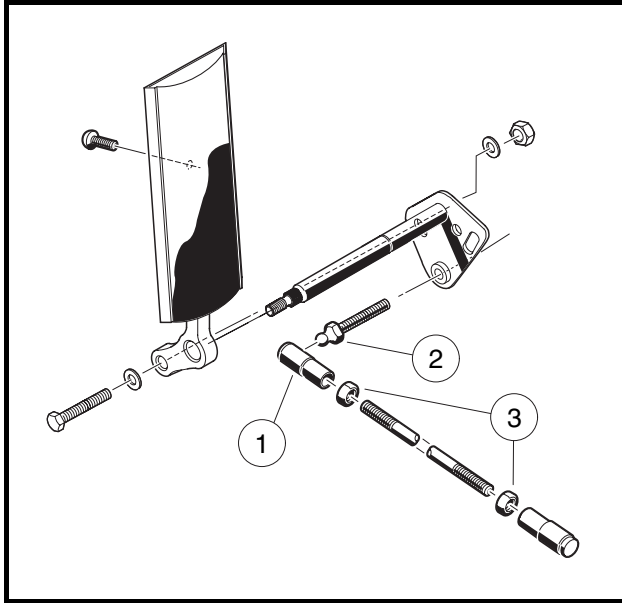
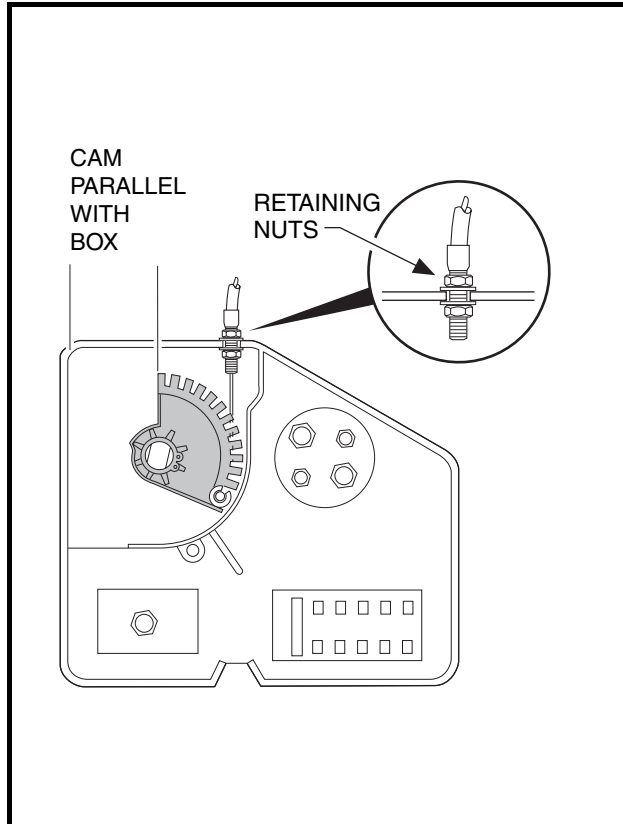
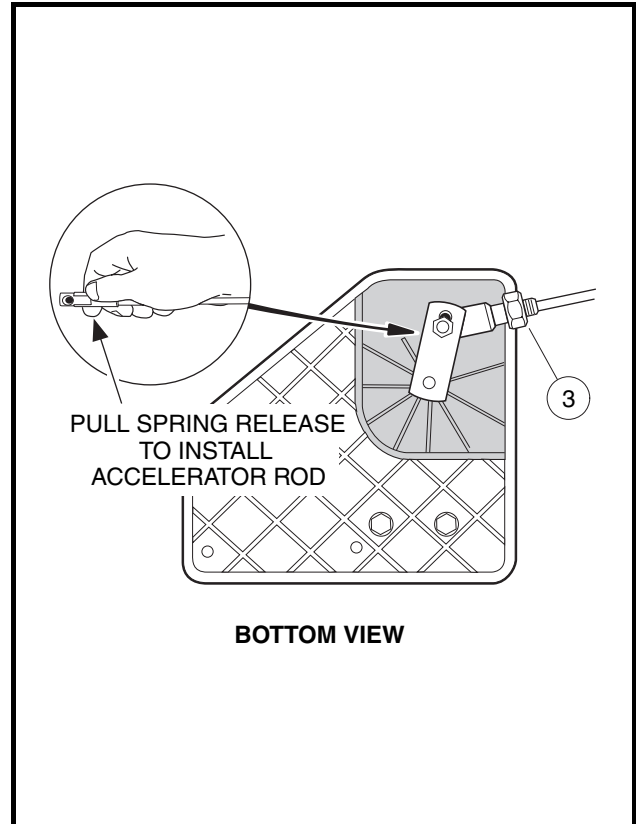

Figure 14-4 Accelerator Rod
Figure 14-5 Cam Position
Figure 14-6 Accelerator Rod
2. Disconnect the ball joint (1) from the ball stud (2) on the accelerator pedal (**Figure 14-4, Page 14-7**) and from the bell crank at the electrical box (**Figure 14-6, Page 14-9**).
3. Install the ball joint on the ball stud at the accelerator pedal (**Figure 14-4, Page 14-7**).
6. With the ball joint jam nuts (3) loose (**Figure 14-4, Page 14-7**), adjust the length of the accelerator rod so the indicated cam edge is parallel with the edge of the electrical component box (**Figure 14-5, Page 14-9**). **See following CAUTION.**
7. Install the accelerator rod on the bell crank ball joint on the electrical component box (**Figure 14-6, Page 14-9**). **See following CAUTION and NOTE.**
4. Remove the electrical component box cover and loosen the cable housing retaining nuts (**Figure 14-5, Page 14-9**).
5. Disconnect cable from cam in the electrical component box (**Figure 14-5, Page 14-9**).
2. Insert the cable housing into the mounting slot in the wall of the electrical box, with approximately the same number of threads visible between the jam nuts as are visible from the nut inside the box to the end of the cable housing (**Figure 14-5, Page 14-9**). Tighten the nuts finger-tight.
5. To reduce RPM, loosen the accelerator cable retaining nut on the outside of the electrical box wall and tighten the retaining nut on the inside of the wall until the specified RPM is reached (**Figure 14-5, Page 14-9**). To increase RPM, loosen the cable retaining nut inside the electrical box and tighten the nut outside the box until the desired RPM is reached.